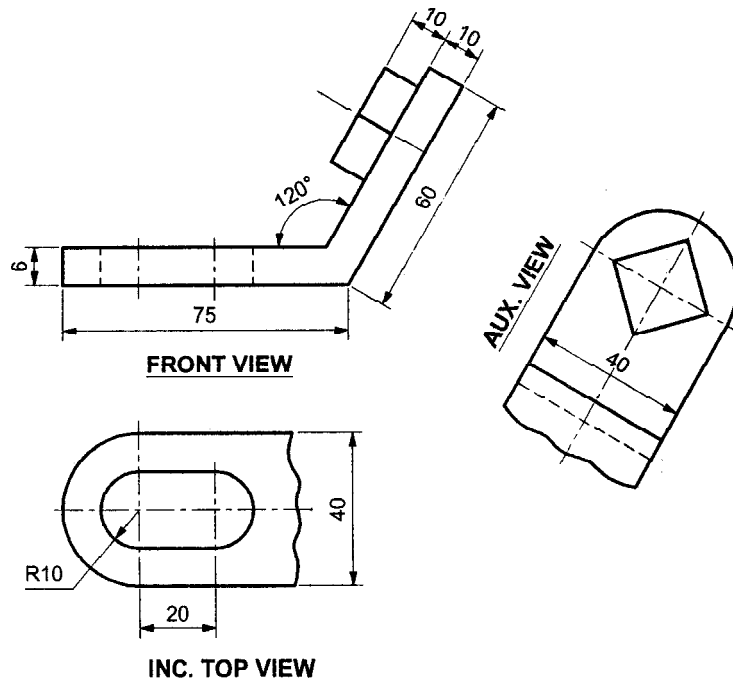

Fig. No. 2
2. a) Fig. No. 2 shows front view, incomplete top views and auxiliary view of an object. Redraw the given views and complete the top view (use first angle method of projection).